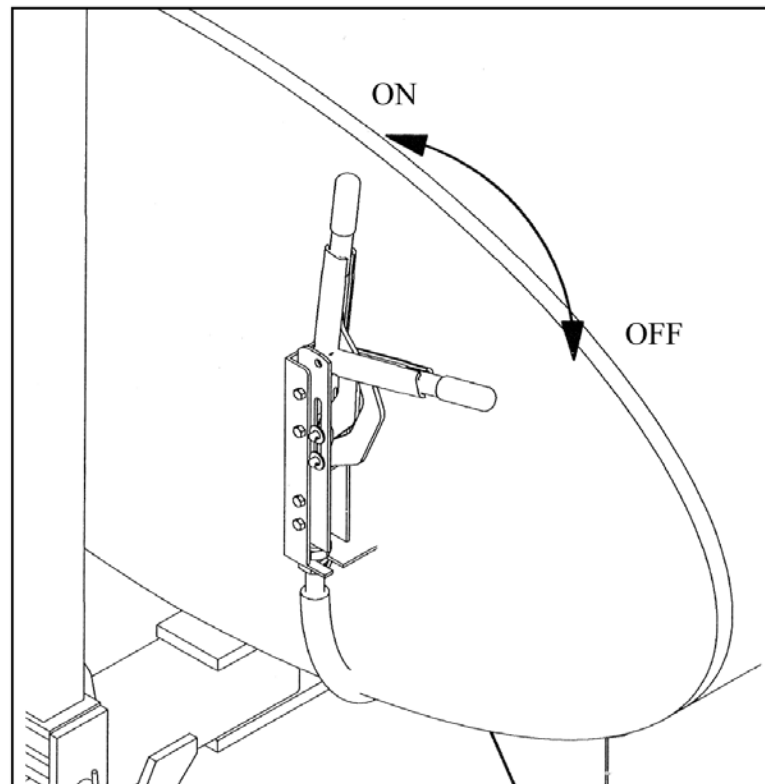

Figure 4-2. Parking Brake Handle
4.5.1 Parking Brake. The parking brake is applied by using the parking brake handle located at the front of the tank assembly. See Figure 4-2.